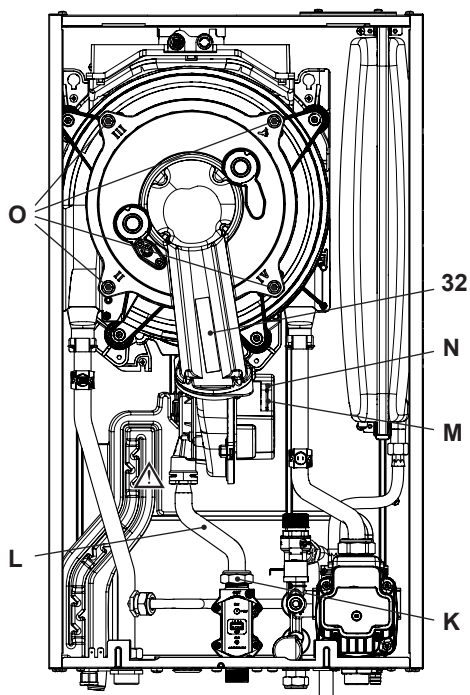

Fig. 10.13
Removing the fan burner unit 32 in Fig. 10.13.
- Disconnect the connector "M" by pulling it downwards (Fig. 10.13).
- Disconnect the fan connector "N" by pulling it downwards (Fig. 10.13).
- Unscrew screws "O" and remove the fan burner unit 32 (Fig. 10.13).